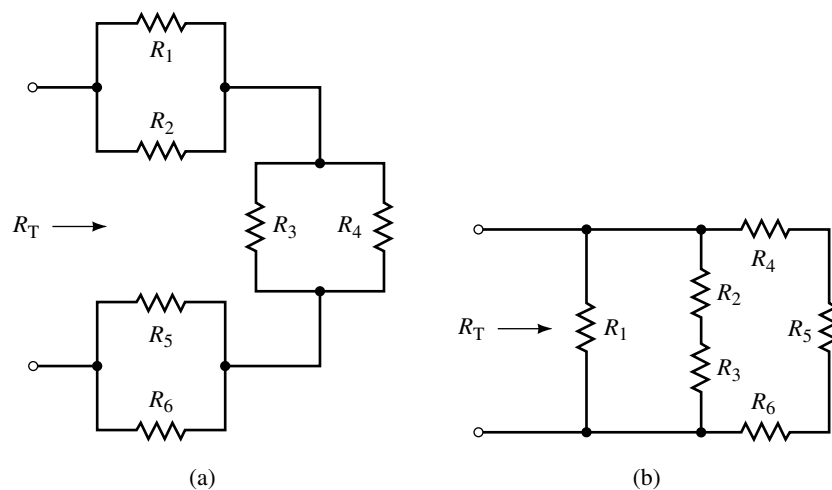

FIGURE 7-47
- For each of the networks of Figure 7-47, write an expression for the total resistance, R_T .